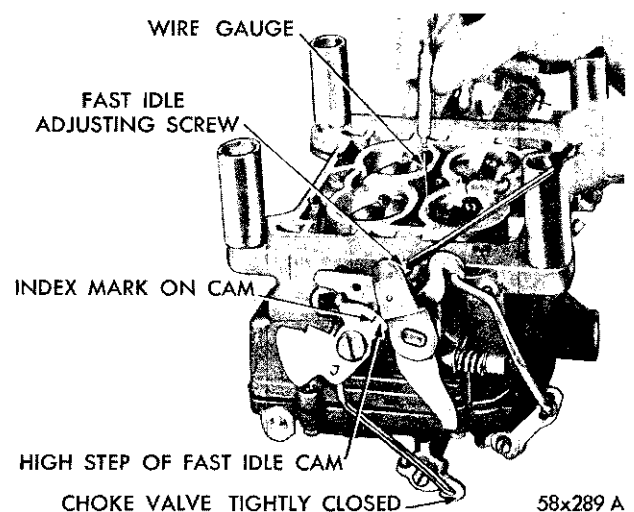

Fig. 33—Checking Fast Idle Adjustment
(1) With the choke valve held tightly closed and carburetor inverted, tighten the fast idle adjusting screw (on the high step of the fast idle cam) until wire gauge Tool T109-29 (.020 inch) can be inserted between the primary throttle valve and the bore (side opposite idle port), as shown in Figure 33. The index mark on the fast idle cam should be in direct line with the fast idle screw shank.